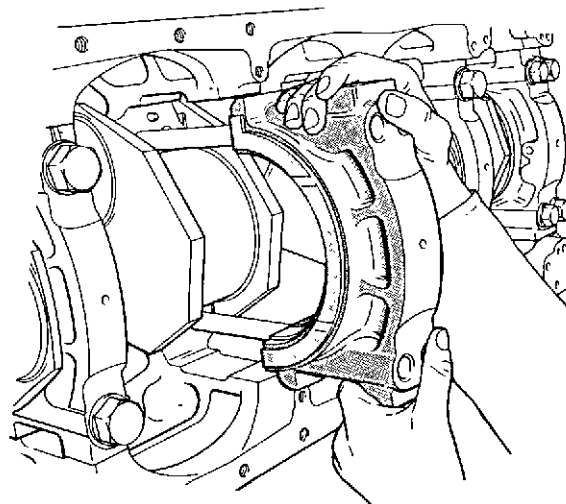

Fig. 4 Fitting centre main bearing
- 7 Using the Guide Studs, VT 11496, carefully fit the centre main bearing cap assembly, (fig. 4), ensuring that the thrust washer halves are not dislodged during the operation.